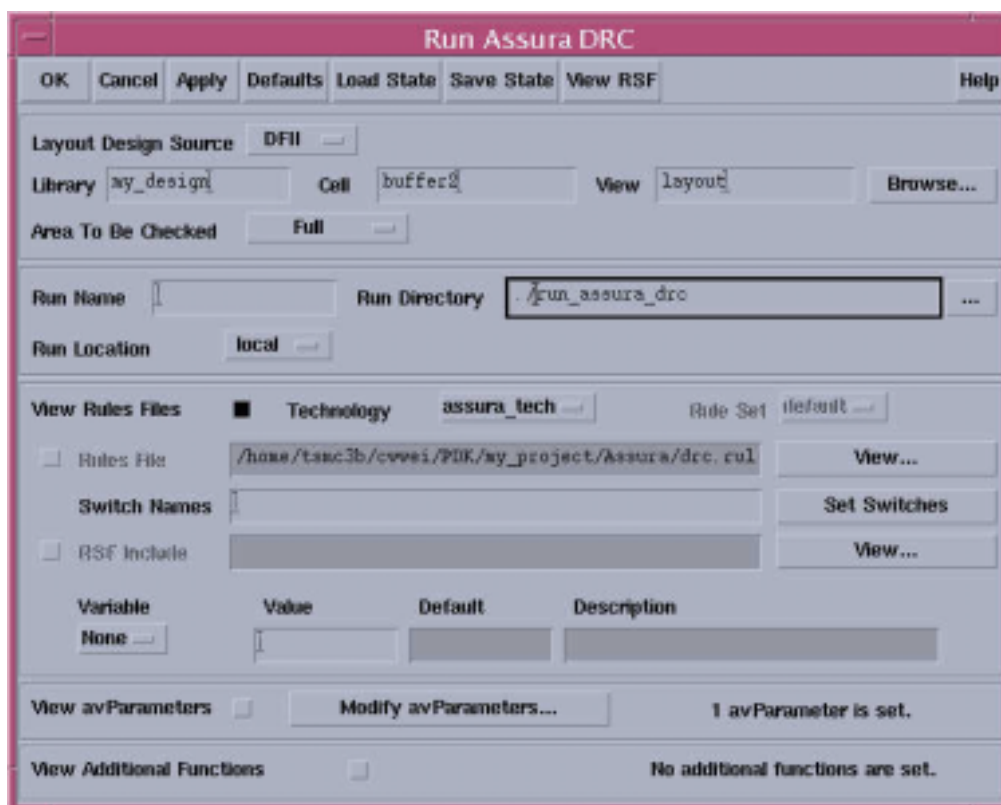

FIG. 23 Assura DRC setup window
2. Fill in the "Assura run directory" and select the "Technology" field to "assura\_tech" (Fig. 23) in Assura DRC window. You can also set the Assura DRC switches and other parameters if needed.